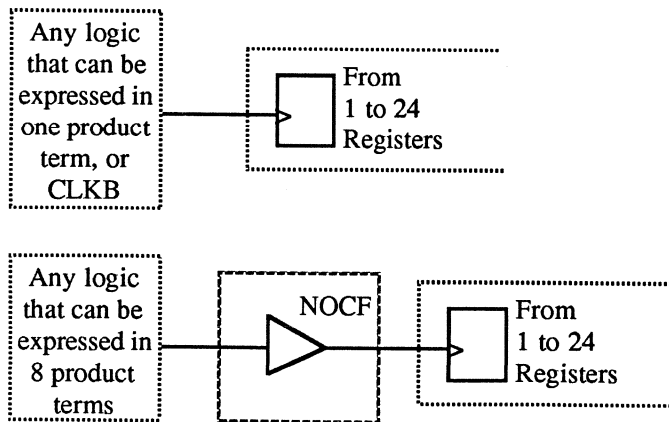

Figure A-6. EP900/EP910 Clocking
Pins 1 and 21 (2 and 24) are the two dedicated synchronous clock pins. Pin 1 feeds the registers on the left half of the device—pins 5 to 16 (6-18); pin 21 (24) feeds the registers on the right half—pins 25 to 36 (28-40). If more than 12 registers are connected to the same synchronous clock input, both pins are needed to implement the circuit. In this case, the pin diagram in the Utilization Report contains a reminder to electrically tie the pins together. Figure A-6 shows all legal clock configurations for the EP900/EP910.